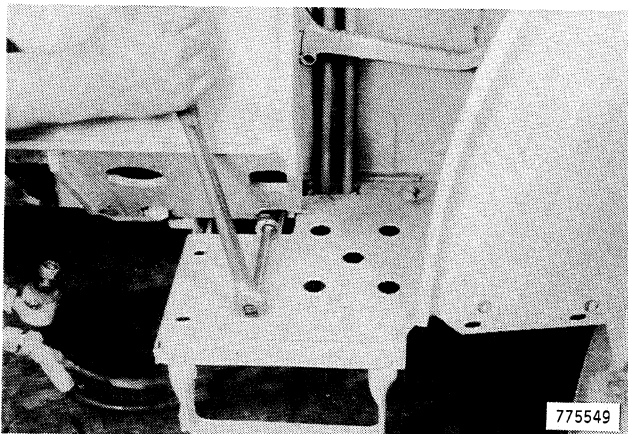

Figure 24
29. Remove the bolts and cap screws from the step. Pry the step back to disengage the dowel pin at the front of the step. Lower the step down out of the way. Remove the cap screws from the loader upright, Figure 24.